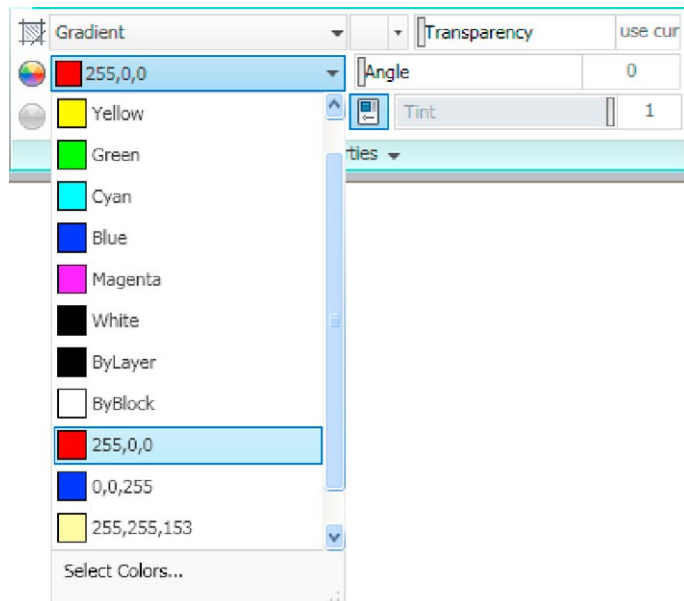

Fig. 8.15 Changing the colours of the **Gradient** patterns
4. Change the colour of the **Gradient** patterns with a *click* on the red option in the **Select Colors ...** drop-down menu in the **Hatch Creation/Properties** panel. The hatch patterns all change colour to red (Fig. 8.15).